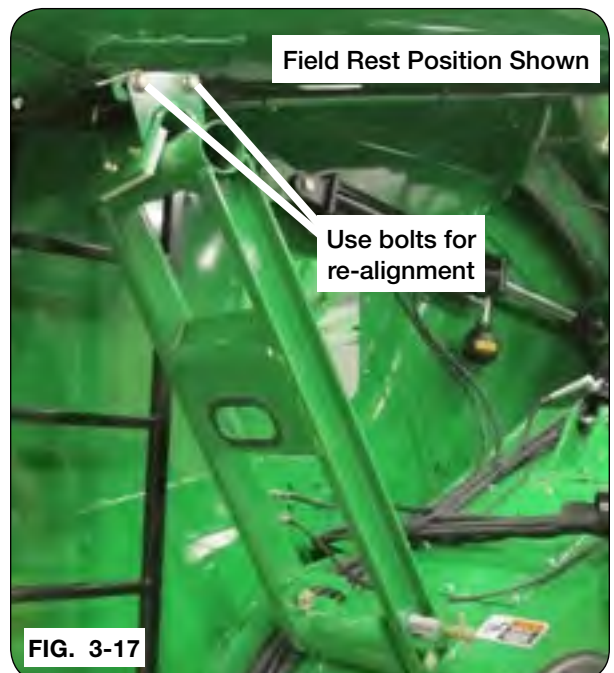

FIG. 3-17
3. Fold auger back to field rest position (Figure 3-17), making sure upper auger rest engages the field rest tube and activates the auger switch.
**NOTE:** Upper auger rest is factory adjusted. Bolts can be used for re-alignment of upper auger rest. See FIG. 3-17.